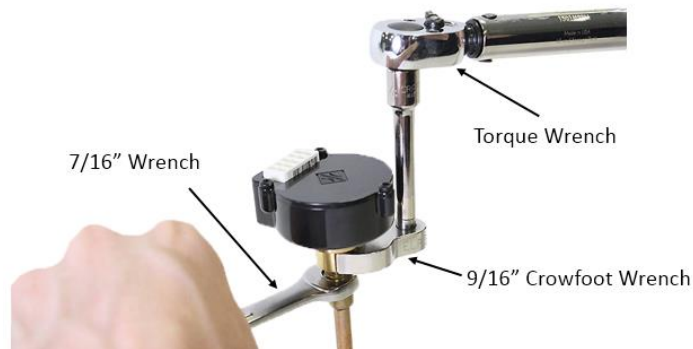

Figure 2-6 USHX Installation with Torque Wrench (70 in-lb)
8. Mount the USHX onto the access fitting. First, turn the USHX clockwise by hand until some resistance is observed. Then, use a torque wrench to tighten the USHX to 70 in-lb as shown in **Figure 2-6**.